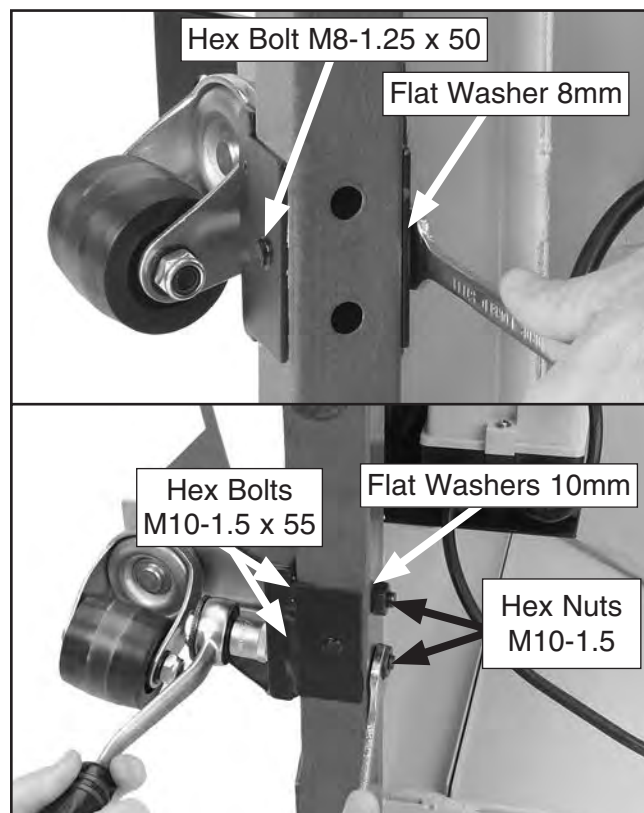

Figure 13. Example of bolting the wheel assembly to the stand.
6. With the cabinet still placed on its left side, bolt the wheel assembly to the stand with the provided hardware, as shown in **Figure 13**.